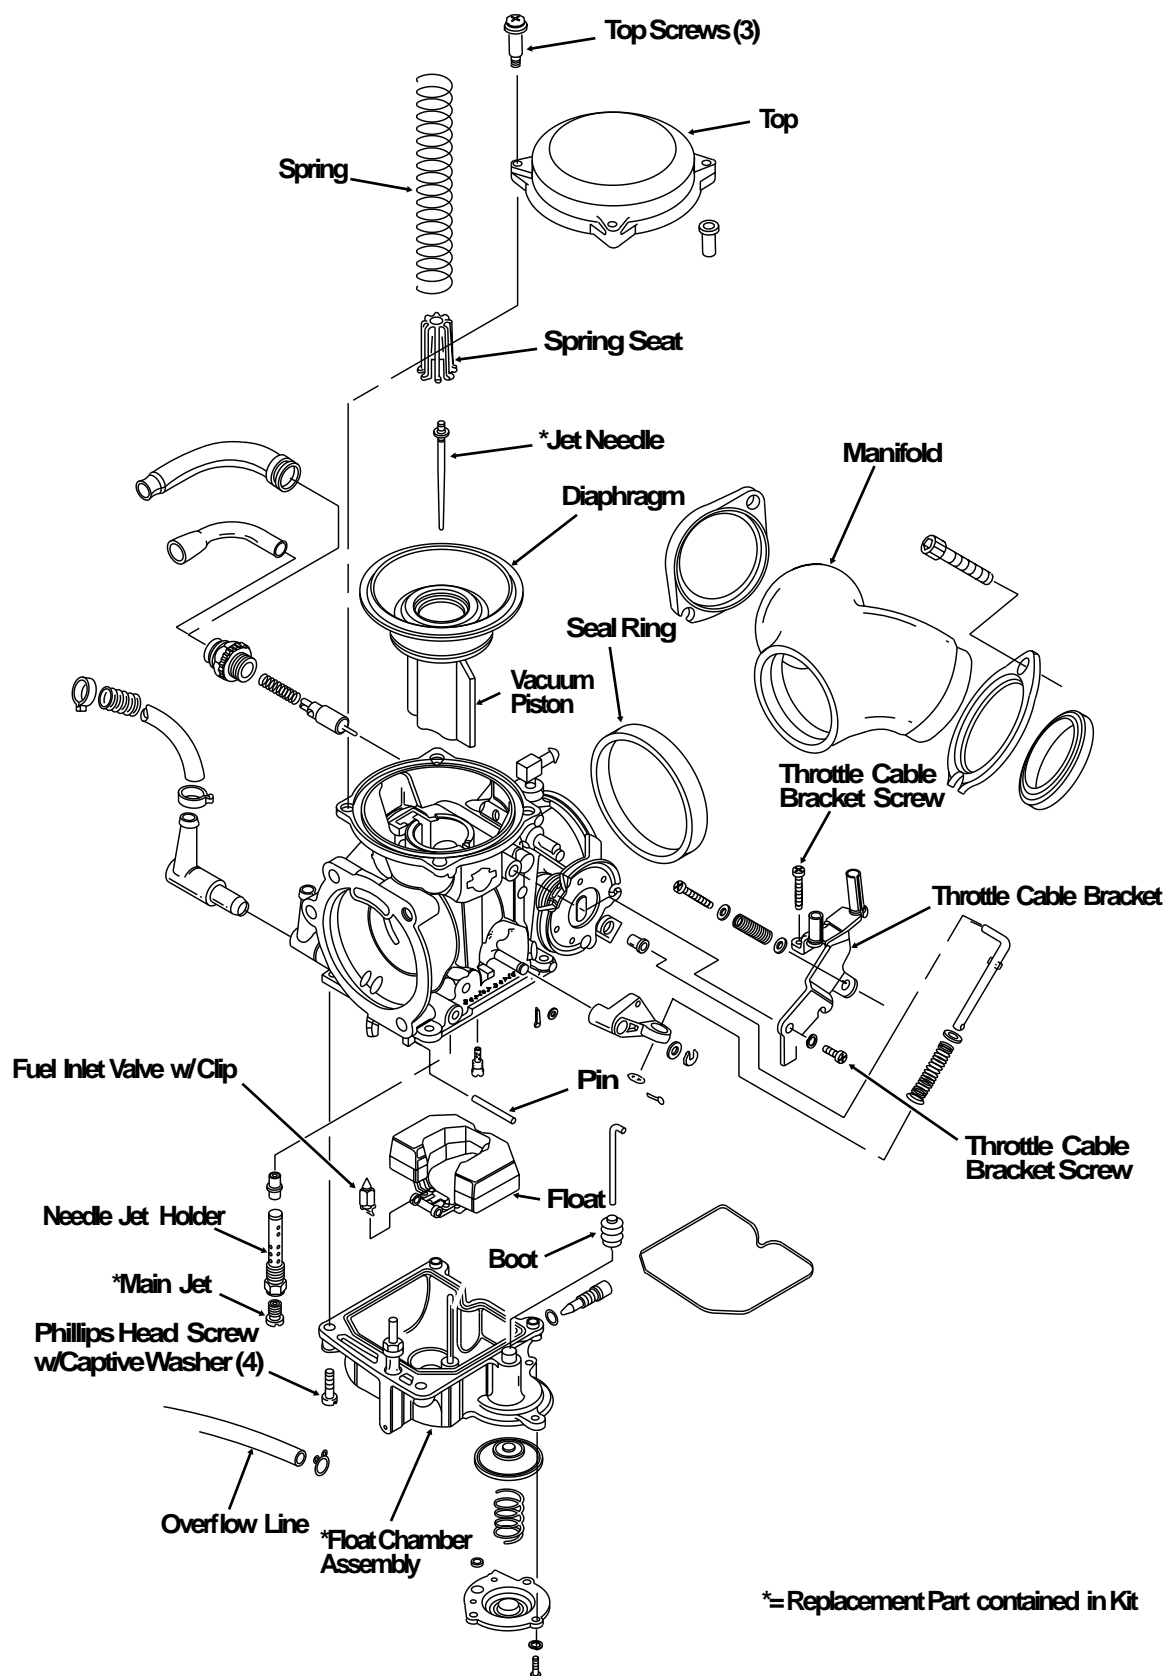

Figure 1. Carburetor
1. See Figure 1. Turn carburetor upside down and remove four phillips head screws with captive washers and float chamber assembly from carburetor body.
1. See Figure 1. Turn carburetor upright. Remove two screws and one washer that mount throttle cable bracket to carburetor body and top. Rotate throttle cable bracket clockwise, away from cover.
1. See Figure 1. Mate carburetor outlet to seal ring on manifold. Make sure carburetor is in a true vertical position. Misalignment could damage manifold seal ring.